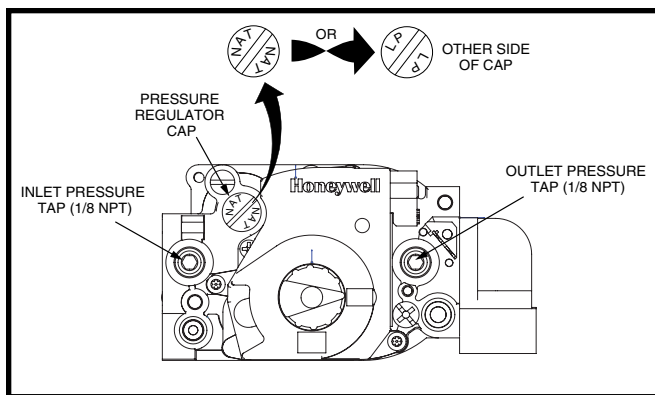

Figure 28. Honeywell Gas Valve
- A 1/8" NPT plugged tappings for test gauge connection are present on the gas valve. See Figure 28 \(page 20\) for locations
- a. Unscrew the pressure regulator cap and check for the letters NAT or LP. See Figure 28 \(page 20\).
The gas pressure can be checked with a manometer at the pressure tap (Figure 28 \(page 20\)) located on the top of the gas valve. The gas valve pressure regulator can be adjusted by removing the regulator selector stack and turning the slotted insert located directly under the selector stack. The regulator selector stack must be secured in place before each pressure reading is taken. Natural gas manifold pressure should be 3.5" W.C. and L.P. gas manifold pressure should be 10" W.C. Replace the gas pressure tap plug on the gas valve.